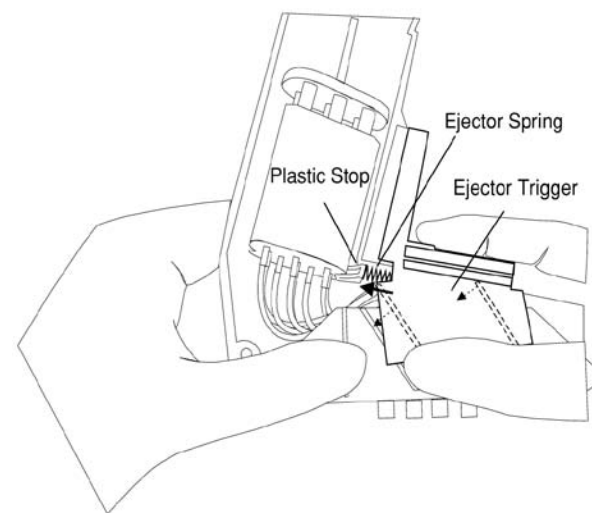

Figure F.2.3h: Inserting Ejector Trigger
6. Hold the ejector comb in place while inserting the ejector trigger (see Figure F.2.3h). Place the end of the ejector spring against the plastic stop and compress the spring while positioning the ejector trigger over the aluminum ejector comb (the ribs on the ejector trigger should mate with the slots on the aluminum ejector comb). For 16 channel models, install the trigger prior to connecting the ejector comb.